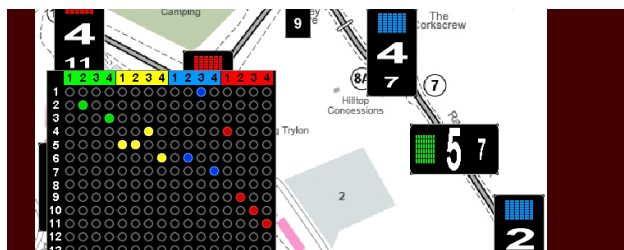

Figure 5 - Linked Turn Groups
**TSL TURNS** - This function is used to group TSLs together so all TSLs in a turn group will always display the same flag when one of the TSLs is selected. For tracks with difficult corners requiring multiple lights to effectively alert drivers, multiple safety lights can be grouped together to function as a single safety light. 32 different turns are available designated as turn 1 through 32. Notice in Figure 5, there are two turn group tables at the bottom of the screen containing TSL IDs 1 thru 4 in the left popup and IDs 5 thru 8 in the right popup. To link TSLs into a turn group for a specific turn, locate the ID color and number, then move down to the desired turn number and click in the circle. The circle will change color and the TSL onscreen will display the turn number selected. To remove a TSL from a turn group, click on the colored dot again. To change turn groups, click on the circle of a different letter and the TSL will transfer to that turn group.